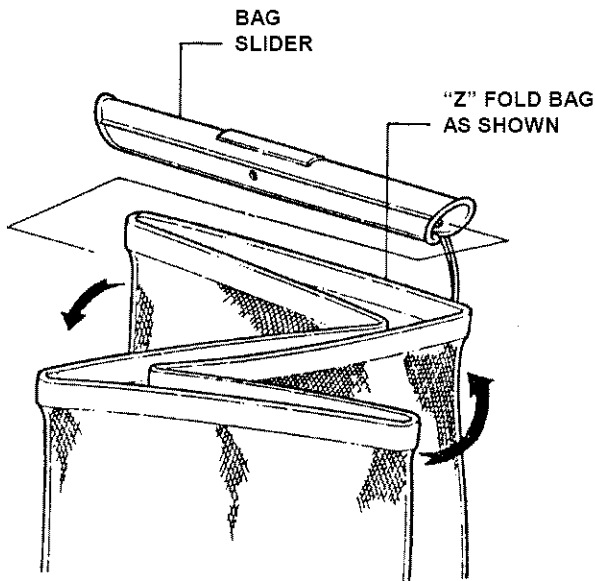

FIGURE 2.9
A. Install the top wire to the grass bag. Tie the bag slider to the top wire. Fold bag opening into a "Z" and pull bag into slider. See Figure 2.9.